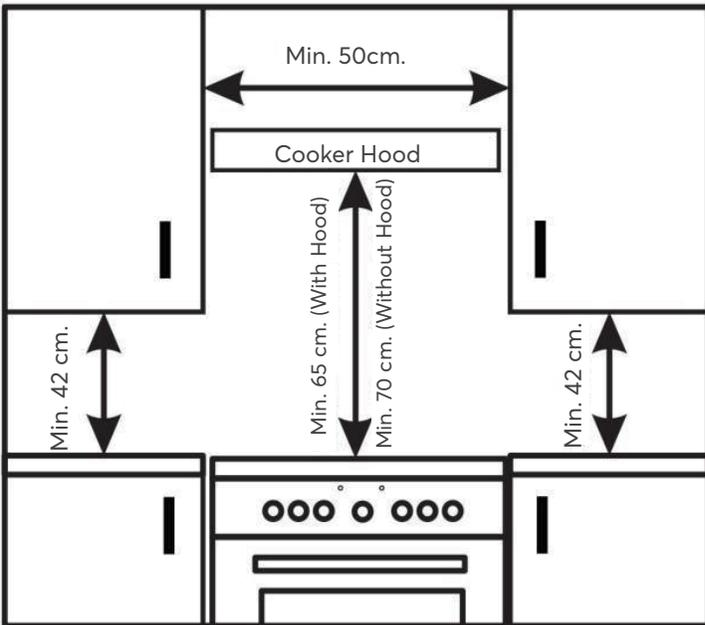

Figure 1
4. Place the wall cabinets adjacent to the hood at a minimum height of 42 cm from the hobs as indicated in figure 1.
- 5. Should the cooker be installed beneath a wall cabinet, the latter should be situated at least 70 cm away from the hobs as indicated in figure 1.
- 6. Cut-out for the cooker cabinet should have the dimensions indicated in the figure 1.